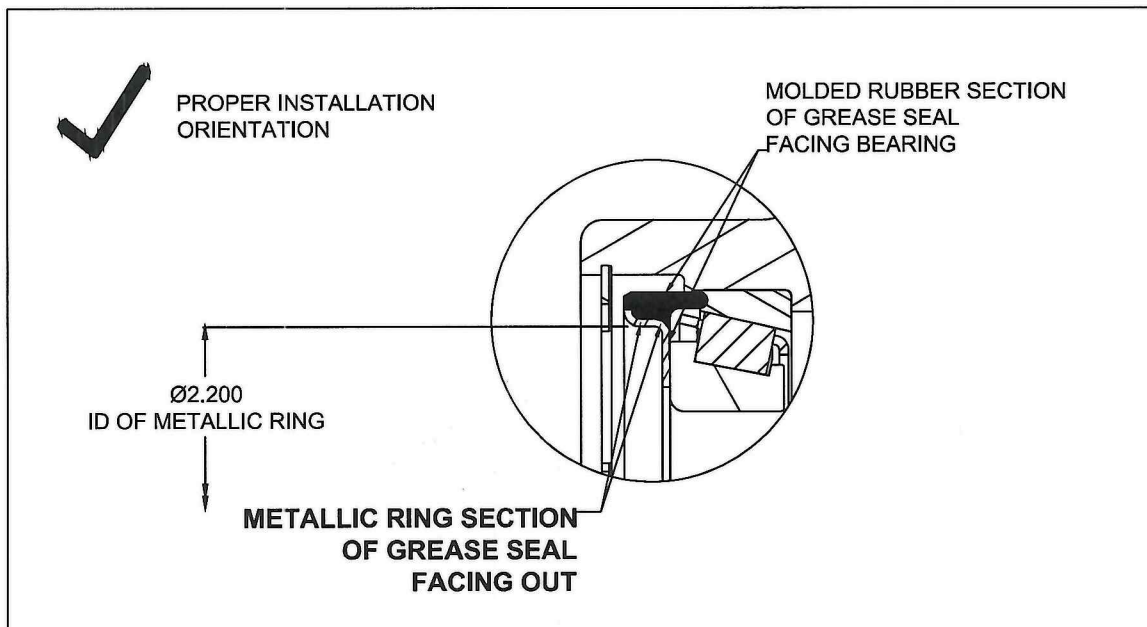

Figure 1 – Proper Installation Orientation
- (1) Inspect both the inboard and outboard 154-09600 grease seals installed in the wheel assembly per Figure 1.
- (2) Remove the retaining ring.
- (3) Inspect the grease seal for proper installation orientation. The metallic ring section of the grease seal shall be facing out.
- (4) Verify grease seal orientation by measuring the inside diameter of the metallic ring section of the grease seal per Figure 1.
- (1) If the 154-09600 grease seal is installed incorrectly, then both the inboard and outboard bearings should be inspected and packed with grease per the appropriate CMM.
- (a) If the grease seal is not damaged reinstall in the proper orientation per Figure 1.
- (b) If damaged replace the grease seal and install in the proper orientation per Figure 1.
- (1) Make the appropriate airframe logbook entry of compliance.